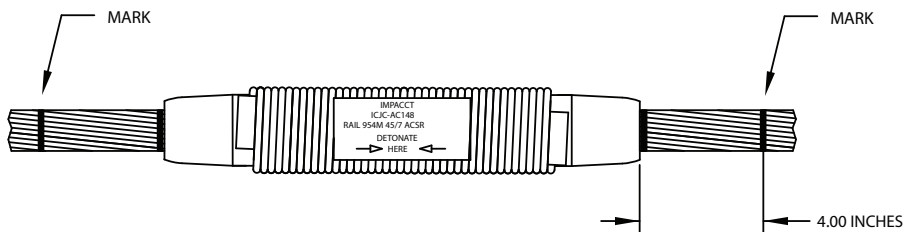

Fig. 2
2. Remove "End Caps", and then slide each conductor into the Jumper Connector Assembly up to the "Mark" as shown in Fig. 2. Add "Mark" 4 Inches from end of Jumper Connector. (To verify no "pull out," See Step 3.)